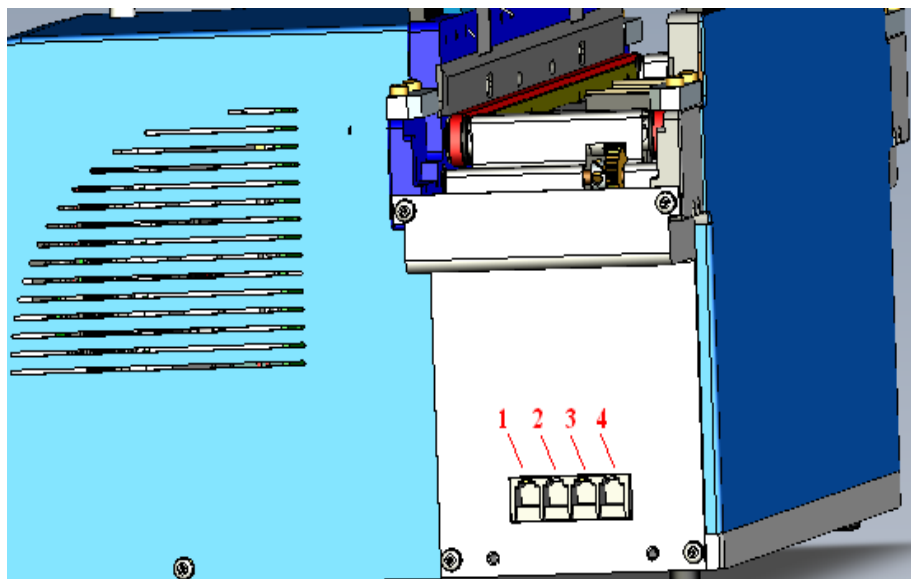

Figure 9
- Connect modular plugs of the black coiled cable into both the StopLink and the desired port on the side of the StackLink (Figure 9/10).